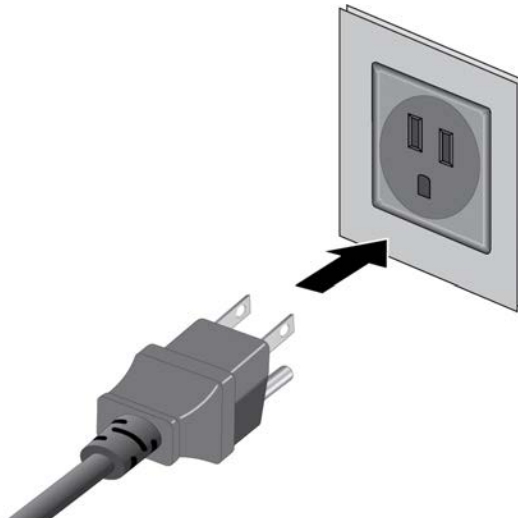

Figure 14. Plugging in the AC Power Cord to an AC Source
4. Connect the power cord to an appropriate AC power source. Refer to Figure 14 on page 94.